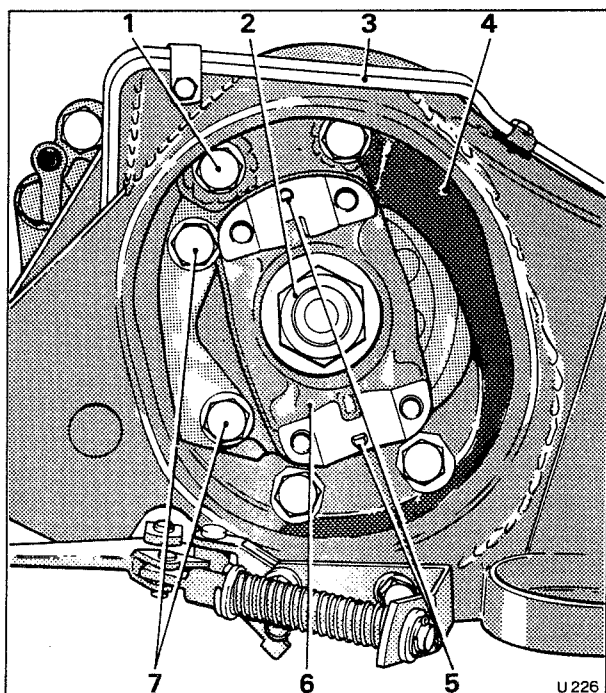

Fig. J16m Rear hub and brake caliper mounting
13. Remove the two lower setscrews securing the stub axle flange to the trailing arm (see Fig. J16m).
- 1 Hub mounting bolts (4)
4. Remove the large nut securing the yoke to the hub drive-shaft (see Fig. J16m).